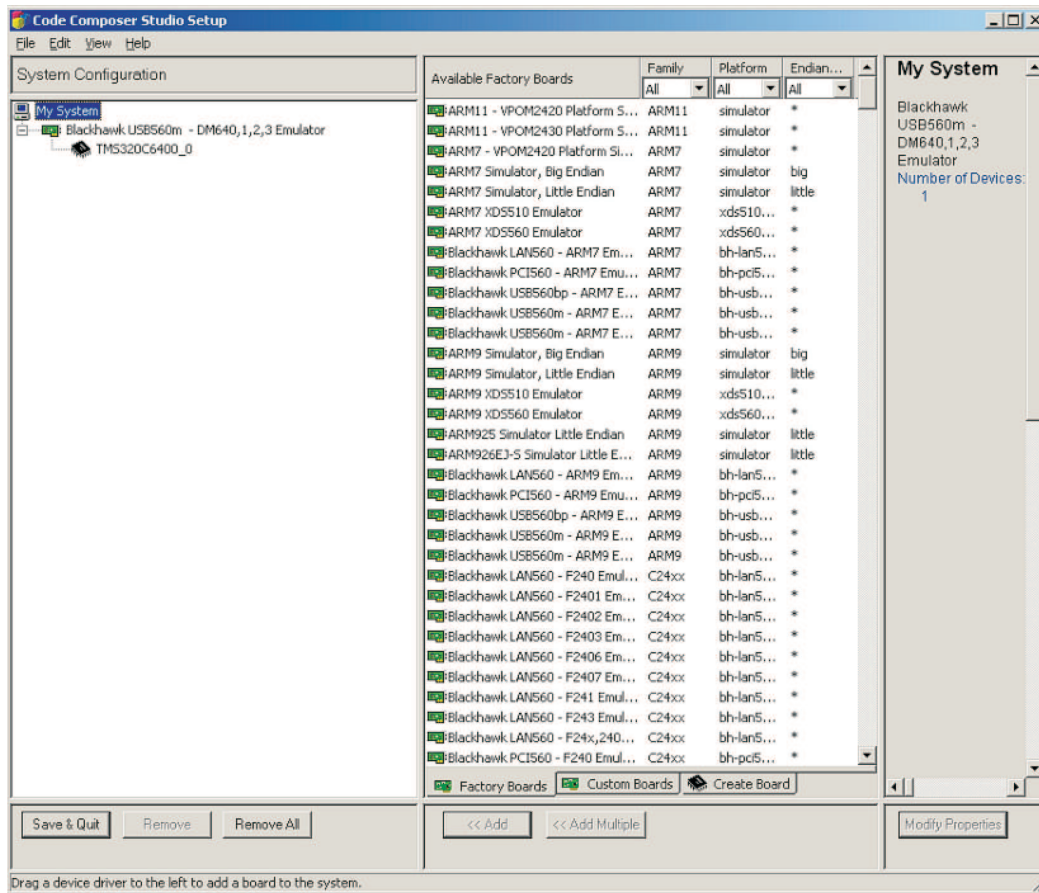

Figure 1. BlackHawk560M Configuration to Connect to DM642
8. Make sure the PC is connected through USB/JTAG to the DM642 correctly; in Figure 1, the BlackHawk USB560M debugger is used. Install any JTAG drivers required and be sure that PIN1 of the JTAG on DM642 board matches PIN1 of the JTAG connector. Click on the Code Composer Studio Icon, typically placed on the Desktop of the PC, to open Code Composer Studio as shown below.